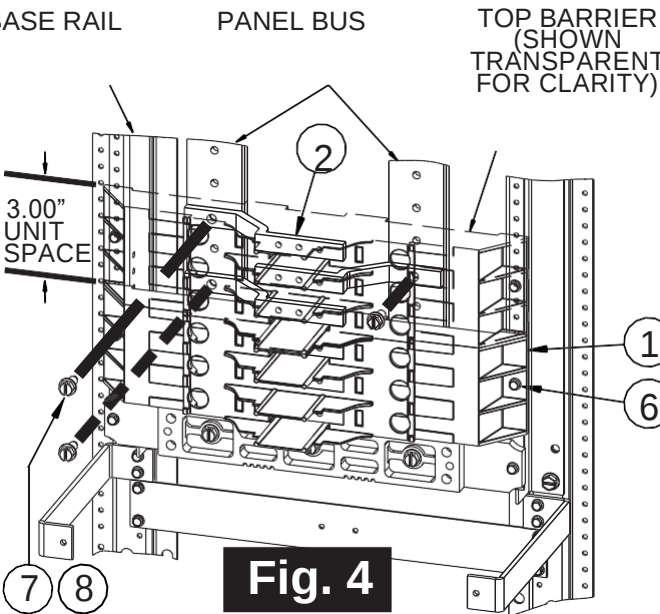

Fig. 4
6. Refer to Fig. 4: Position the breaker mounting barrier (Item 1) so that it fills the 3" unit space for the kit and fasten it to the base rails using two #8-32 screws (Item 6). Install the phase connectors (Item 2) within the mounting barrier, alternating between the left and right panel bus. The left-right-left connector pattern shown in Fig. 4 may be reversed if necessary to continue a connector pattern already in place in the panel. Fasten the connectors to the panel bus with the proper 1/4"-20 screws (Items 7 or 8).